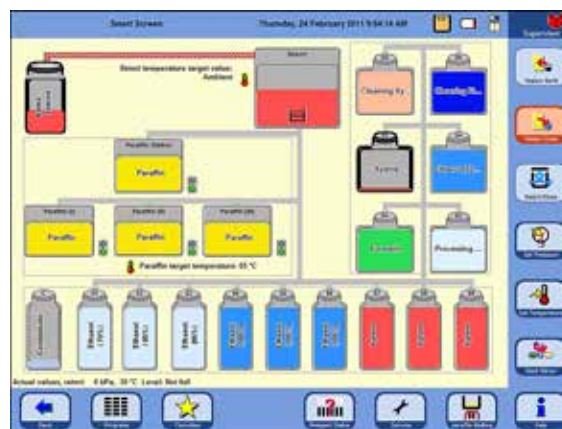

Fig. 166
- The entire process is displayed graphically on the screen (**SMART SCREEN** view) (Fig. 166).